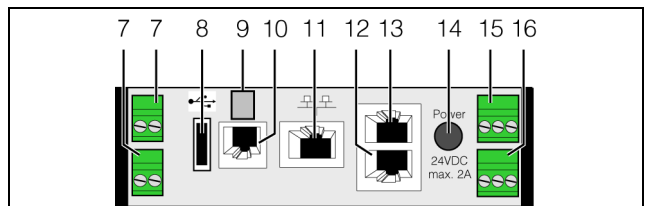

Fig. 9: Rear of the CMC III PU
The voltage sources at positions 7, 10, 12, 13 and 16 (fig. 9) must satisfy the Limited Power Source (LPS) requirements in accordance with UL 60950 and observe the limit values mentioned above.
- Connect the external power pack (DK 7030.060) to the CMC III PU power supply (fig. 9, item 14).
- To do this, connect the 24 V output (direct connection) on the power pack (DK 7030.060) to the appropriate connection of the CMC III PU (fig. 9, item 15).
The above designations "left", "centre" and "right" apply when the device is viewed from the rear (fig. 9).
- For example, connect a PoE switch to the Ethernet interface (fig. 9, item 11).
- If required, insert the external temperature sensor at the rear on the connection of the CMC III PU (fig. 9, item 9).
- Connect the Ethernet interface (fig. 9, item 11) using a network cable with an RJ 45 connector to the existing network structure.
A wide range of sensors, actuators and systems for access monitoring (see section 12 "Accessories") can be connected to the two CAN bus interfaces (fig. 9, item 12 and 13).
An external signal source for the alarm signalling can be connected to the potential-free relay output (fig. 9, item 16).
A floating switch contact can be connected to each of the two digital inputs and so, for example, the fault output of an external device evaluated (fig. 9, item 7).